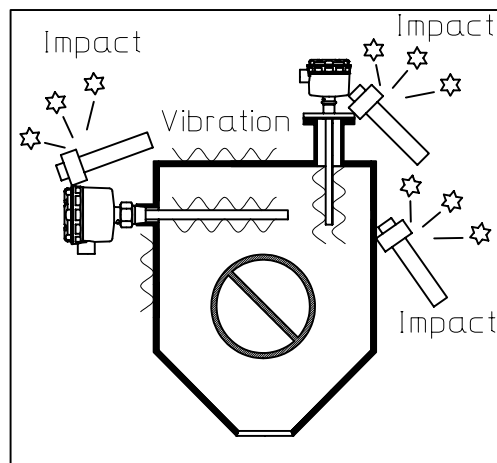

Fig.6-3
(2) Do not install where vibration occurs. Installing near the vibrator(*) or the knocker(*) will cause malfunction and damage the sensor. Refer to Figure 6-3.